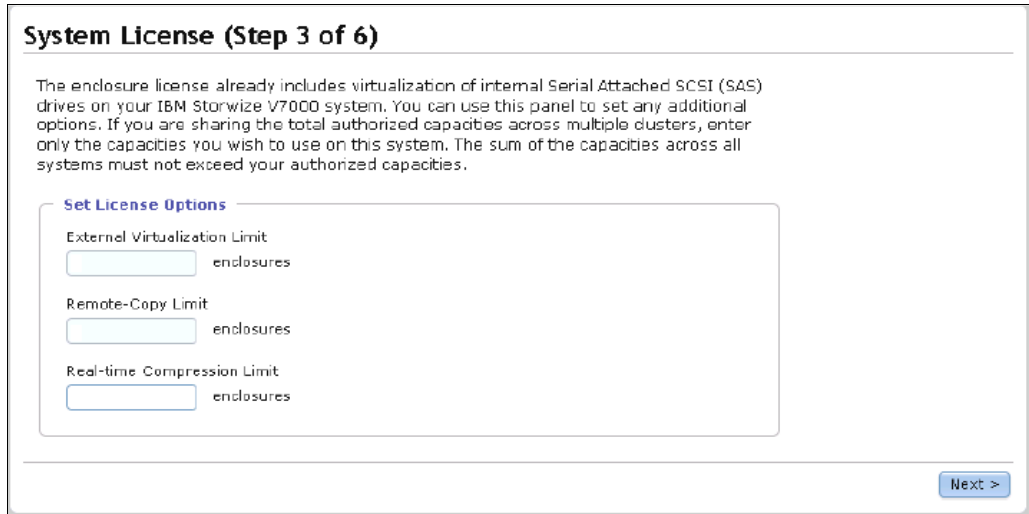

Figure 2-5 IBM Storwize V7000 system license
4. You can add a license for external storage, remote copy, and real-time compression, as shown in Figure 2-5. Click **Next**.